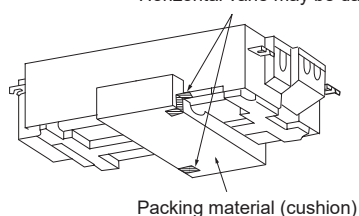

Fig. 3-5
3.5. Preparing the indoor unit (Fig. 3-5)